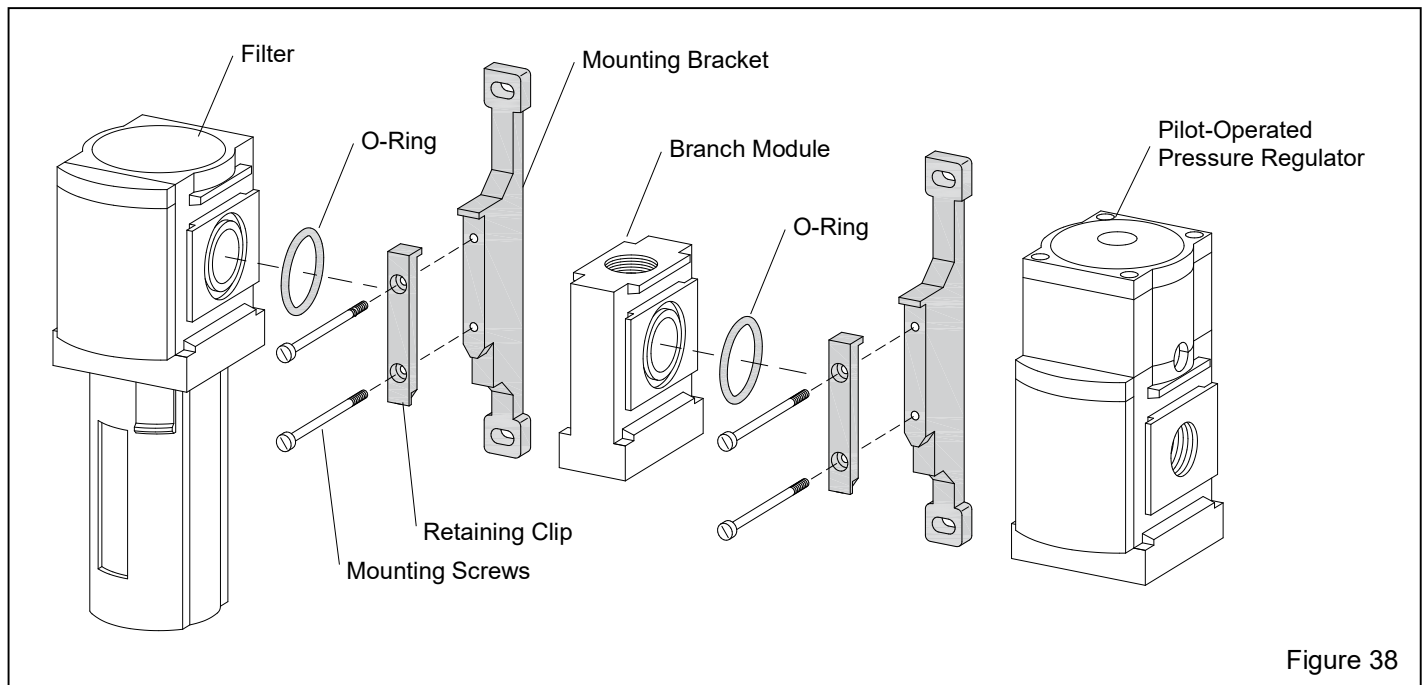

Figure 38
7.10 Servicing Pneumatic Inlet Assembly – Figure 38